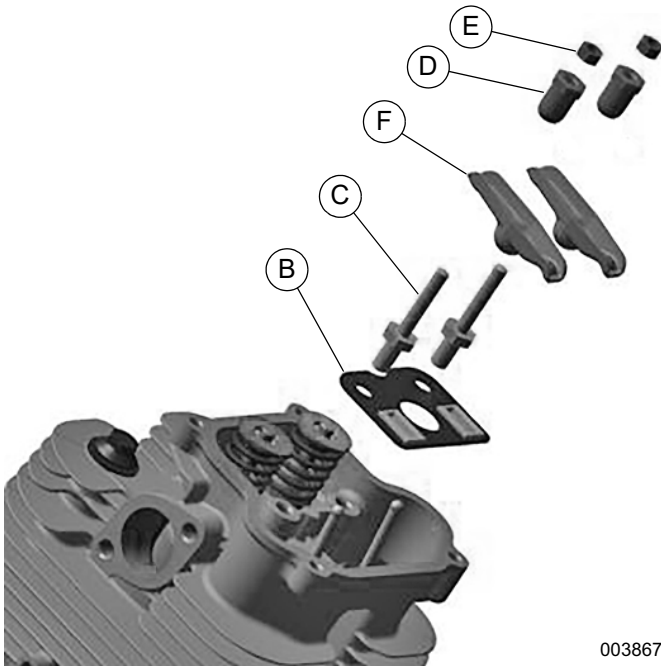

Figure 14-45. Assemble Rocker Arms
2. See Figure 14-45. Install pushrod guide plate (B) rocker stud (C), rocker adjusting ball (D), rocker jam nut (E), and rocker arm (F) for both the intake and exhaust valves. Verify ball ends of pushrods are seated in recesses at bottom of rocker arms.